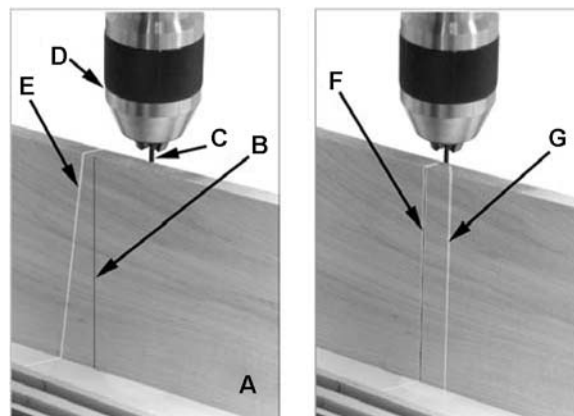

Figure 22
1. Take a length of board (A, Figure 22) and draw a perpendicular line (B) on one side using a square.
2. Insert a small drill bit (C) in chuck (D), then place board (A) on the table on edge against drill bit with the marked-line side toward the back of the drill press.
- Important:** The table should be in horizontal position and locked. *Verify that the line (B, Figure 22) is perpendicular to the table.*
5. Adjust the other laser in the same manner. Two parallel laser markings should look like F and G in Figure 22. The distance between the lines will vary with board thickness; however, the lines must be parallel.